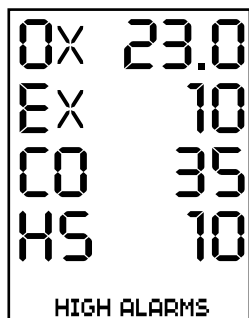

Fig. 8
The High Alarm Set Point for the sensors can be set by pressing the PEAKS/NO button while the High Alarm Set Point is being displayed during warm-up (Fig. 8). To skip this step, either press the POWER/SELECT button or wait 5 seconds. If a sensor's reading exceeds this set point, it will trigger a High Alarm. To set the alarm levels, use the arrow buttons to adjust the highlighted digit or the POWER/SELECT button to advance to the next digit. Allowable ranges for the High Alarm Set Point are: Carbon Monoxide (CO) – 5 to 999 ppm, Hydrogen Sulfide (HS) – 2 to 200 ppm, Oxygen (OX) – 21% to 25% v/v and Combustible Gas (EX) – 5% to 60% LEL. If the password protection has been set, you will be required to enter the password in order to change the High Alarm Set Point.